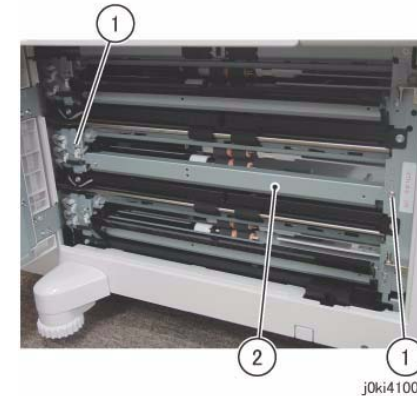

Figure 3 Remove the Tray 3 Feeder Assembly
7. Remove the Tray 3 Feeder Assembly. (Figure 3)